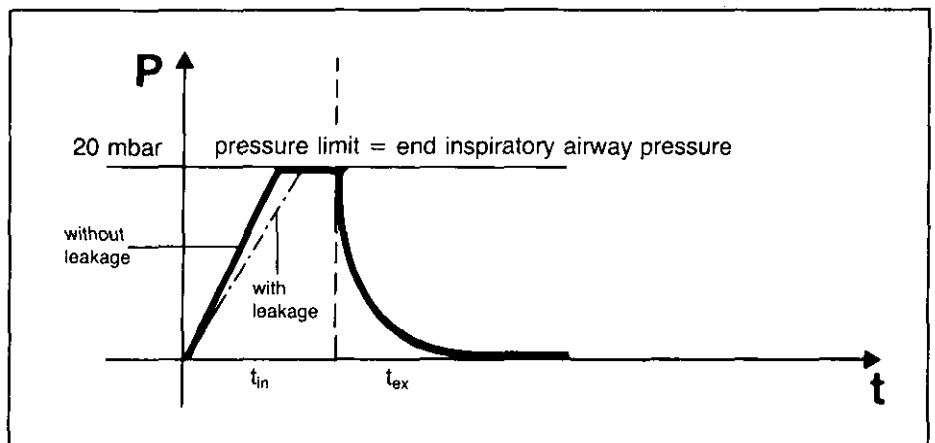

Fig. 5 Airway pressure curve with plateau (cf. Figs. 3 and 4)
3. Ventilation with higher flow setting to compensate the leakage, with inspiratory pressure limitation P_{in} . A greater flow is selected to compensate the ventilation gas losses at, for instance, the tube. In order to avoid an unwanted pressure increase at decreasing leakage, the airway pressure must thus be limited by an appropriate setting at the knob P_{in} (e.g., 20 mbar, Fig. 5). An end inspiratory pressure plateau is formed in the airway pressure curve (Fig. 5). Even with relatively heavy leakage, ventilation is sufficient as long as a plateau exists.
If the airway pressure drops, this may be due to an improvement in compliance, but possibly also to leakage at the tube. In this case, proceed in the manner described in Fig. 5.